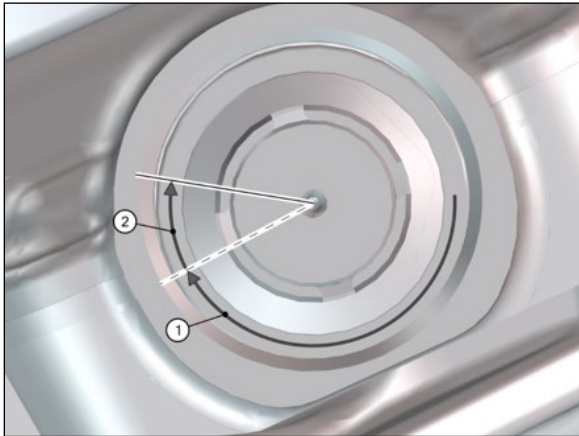

FIGURE 44
5. Remove the upper protective cover and torque tighten the upper nut on the king pin (refer to TORQUE TABLES) (see 1 on Figure 44).
6. Angle-tighten the upper nut  $30 \pm 5$  degrees ( $\frac{1}{2}$  spanner flat). Mark one of the nut corners in relation to the king pin (see 2 Figure 44).